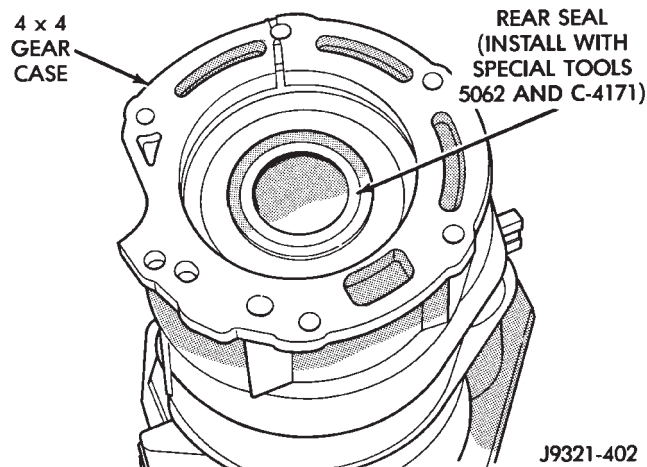

Fig. 301 Rear Seal Installation—4x4 Gear Case
(5) Install new seal in gear case (Fig. 301). On 4x4 gear case, use Tool Handle C-4171 and Installer 5062 (or similar size tool) to seat seal in case. On 4 x 2 gear case, use same tool handle and suitable size installer to seat seal in case.